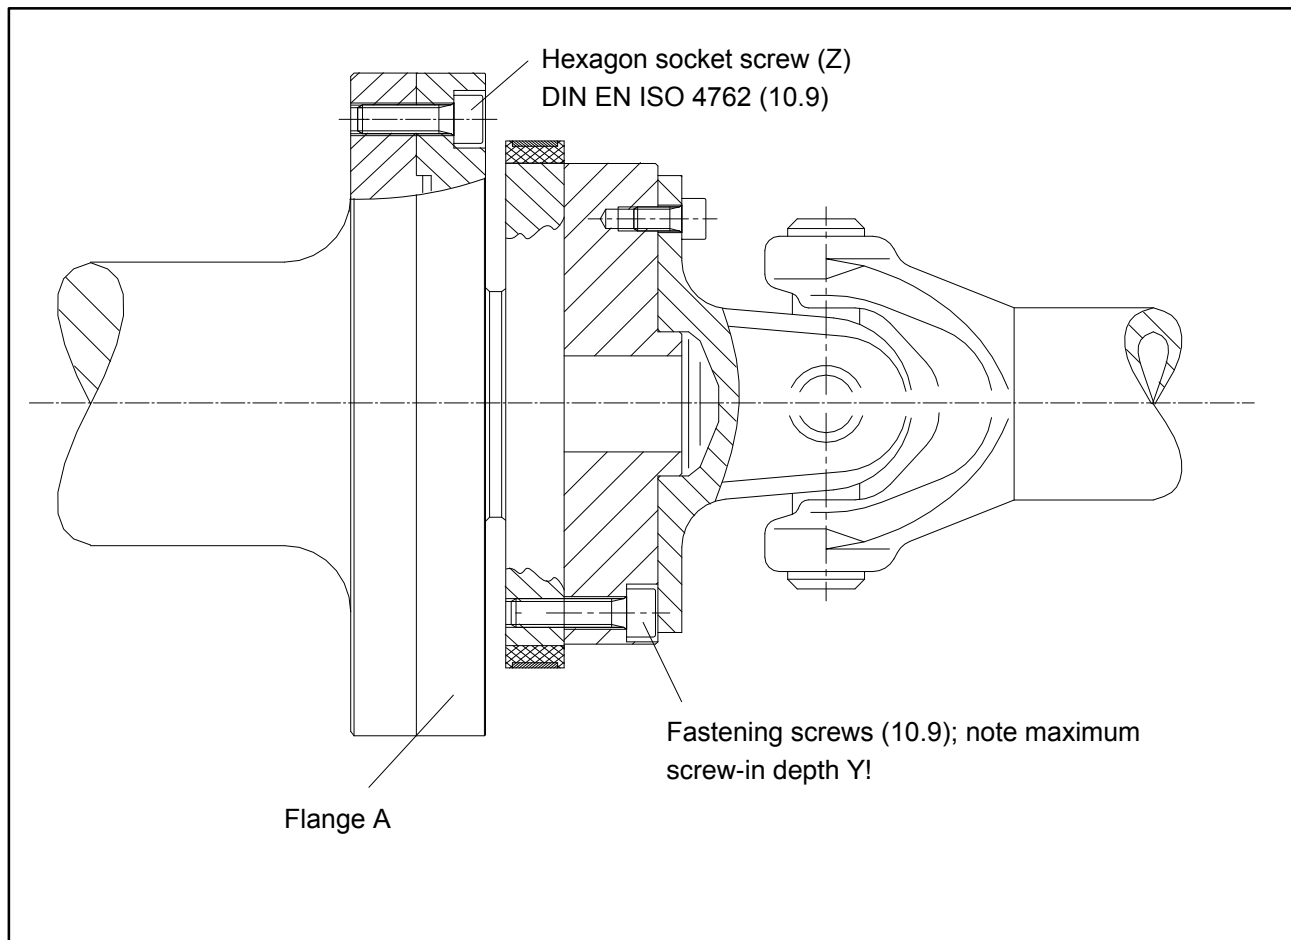

Fig. 4.4: Screwed rotor joint
1. For the connection of flange A (see Fig. 4.4), use **DIN EN ISO 4762 property class 10.9** hexagon socket screws of a suitable length (dependent on the connection geometry, see Table 4.1).